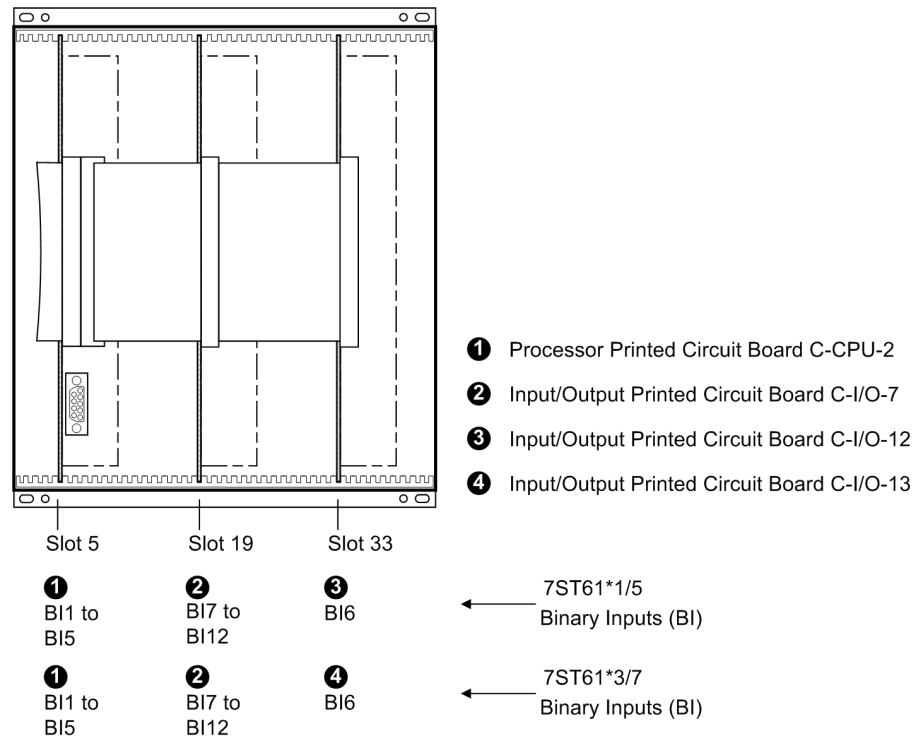
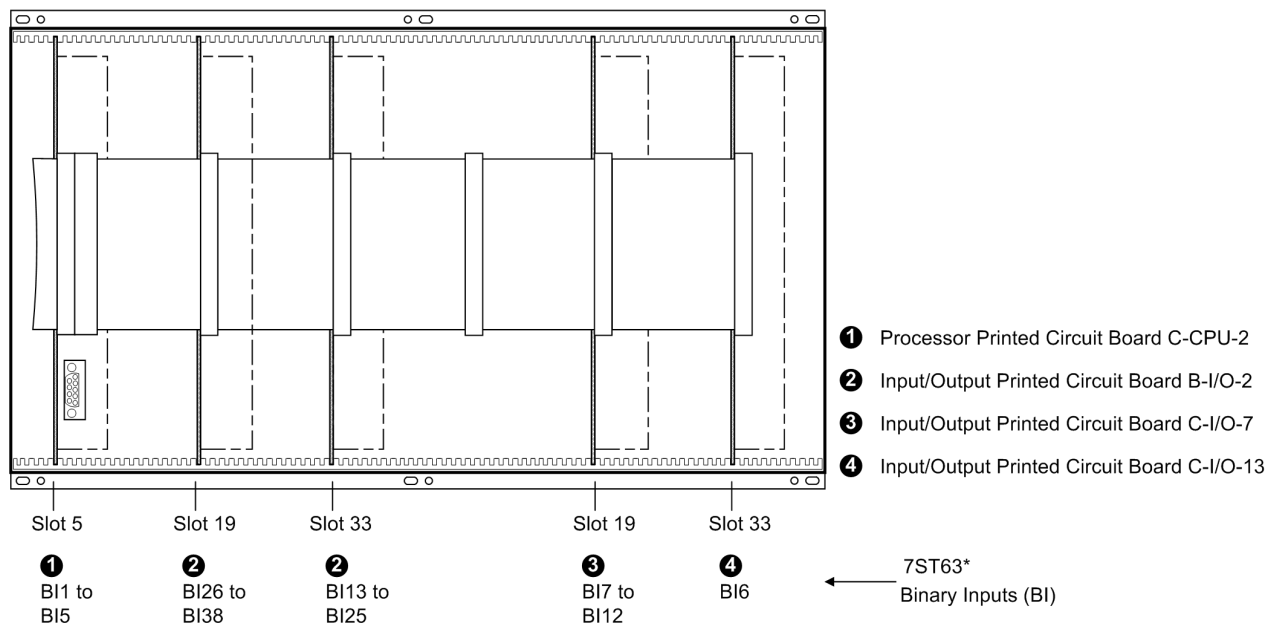

Figure 3-3 Front view with housing size $\frac{1}{2}$ after removal of the front cover (simplified and scaled down)
Figure 3-4 Front view with housing size $\frac{1}{1}$ after removal of the front cover (simplified and scaled down)
The assembly of the boards for the housing size $1\frac{1}{2}$ is shown in Figure 3-3 and for the housing size $1\frac{1}{4}$ in Figure 3-4.
- In versions 7ST6 1 * 1/5 (housing size $1\frac{1}{2}$ with 26 binary outputs) this is valid for the binary outputs BO14, BO15, BO25 and BO26 (Figure 3-3, slot 19).
- In versions 7ST6 1 * 3/7 (housing size $1\frac{1}{2}$ with 21 binary outputs) this is valid for the binary outputs BO9, BO10, BO20 and BO21 (Figure 3-3, slot 19).
- In versions 7ST6 3 (housing size $1\frac{1}{4}$ with 35 binary outputs) this is valid for the binary outputs BO9, BO10, BO20 and BO21 (Figure 3-4, slot 19).
The mounting locations are shown in Figures 3-3 to 3-4.